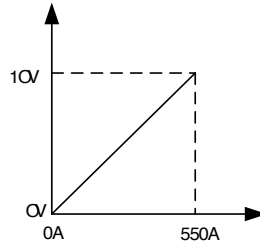

Figure 5-7 Corresponding relation of given current (Fanuc)
1. Corresponding relation of given current is shown in Figure 5-7.